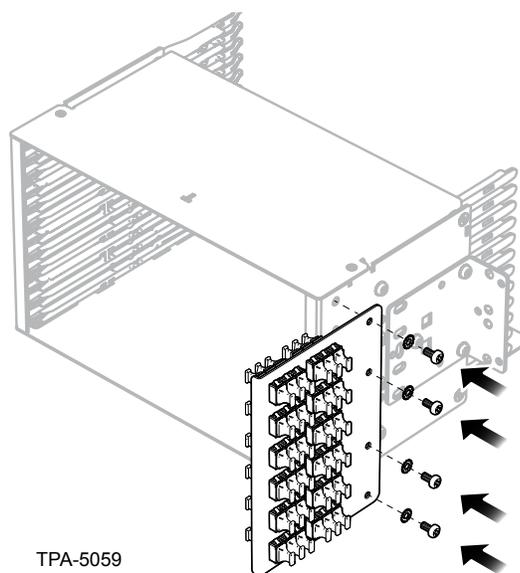

Figure 1
Step 1: Attach the adapter bracket kit (P/N CTX-KIT-S4U-WW89) for the 4U housing example shown to the rear of the housing (Figure 1). Contact Customer Care for additional kit options based on housing size.